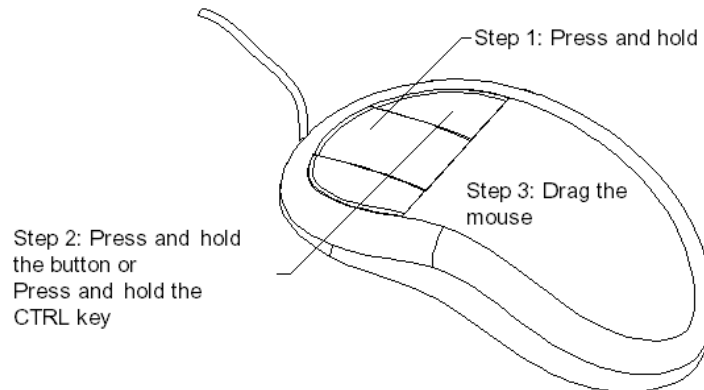

Figure 1-10 Using the three-button mouse to perform the rotate operation
5. Press and hold the middle mouse button. Then, press and hold the right mouse button or left mouse button to invoke the **Rotate** mode. Next, drag the mouse to dynamically rotate the view of the model in the geometry area and view it from different directions. You can rotate the model in the geometry area by pressing and holding the middle mouse button and then pressing and holding the CTRL key. Next, drag the cursor to rotate the view of the model. Figure 1-10 shows how to use the three-button mouse to perform the rotate operation.